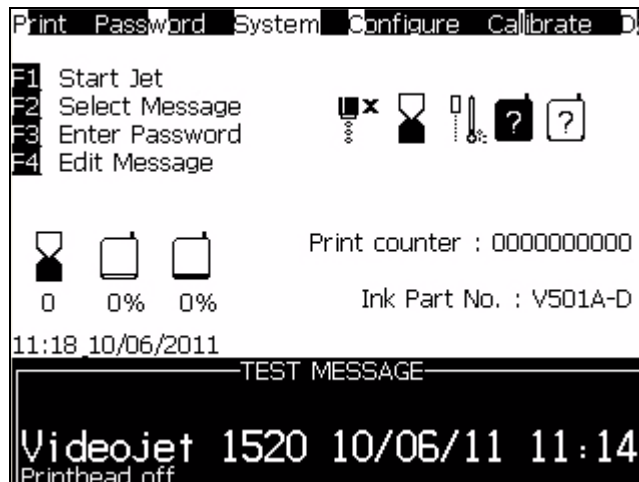

Figure 4-11: Menu Screen
- 17 Connect the printer to the AC power supply and turn on the printer. The menu screen appears on the display (see Figure 4-11 on page 4-10).